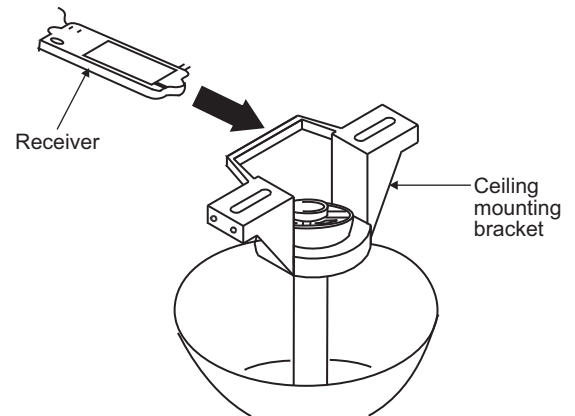

Fig 11
Step 1. Insert the receiver into the ceiling mounting bracket with the flat side of the receiver facing the ceiling. (Fig. 11) For best performance, make sure the Black Antenna, on the end of the receiver, remains extended and not tangled with any of the electrical wires.